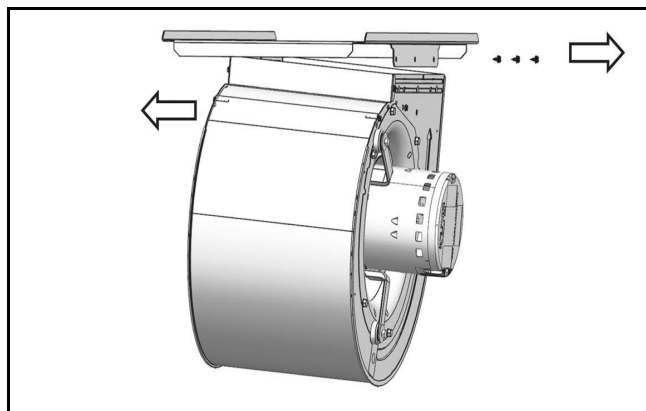

Fig. 9 Remove Screws and Pull the Blower Housing
1. Remove the three screws from the side holding the blower housing to tray. (→Refer to Fig. 9.)
2. Lift the blower housing then pull it to the side to remove the weld pins out of the other side. (→Refer to Fig. 9.)